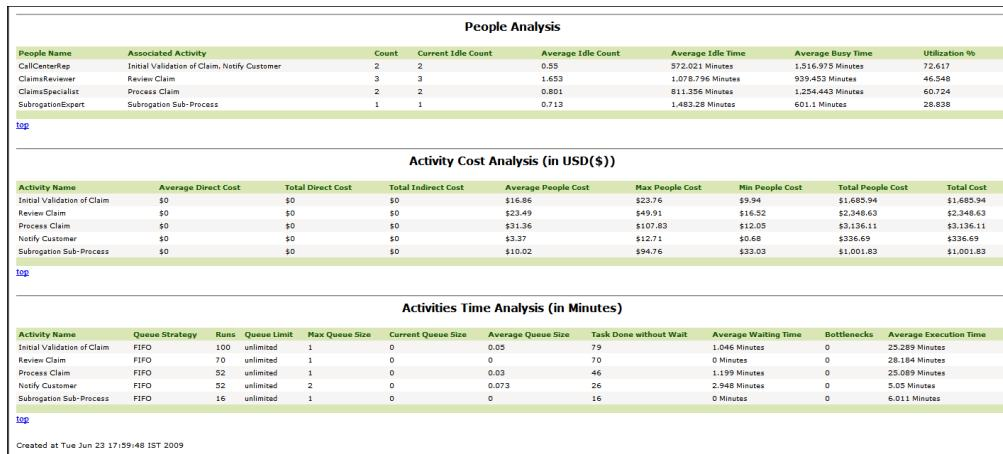

Figure 20: Simulation Summary Report (Analysis)
- Figure 20 shows the *Resource Utilization*, *Cost Analysis*, and *Time Analysis* for each activity.